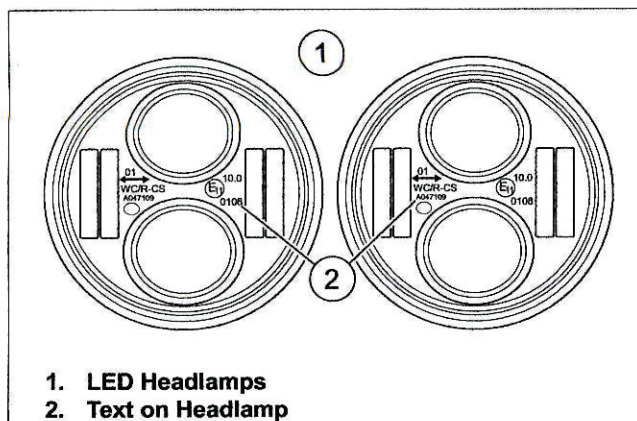

Figure 2. LED Headlamp Text Orientation
3. See Figure 2. Install the Daymaker lamps into the housing. Verify the text (2) is horizontal.